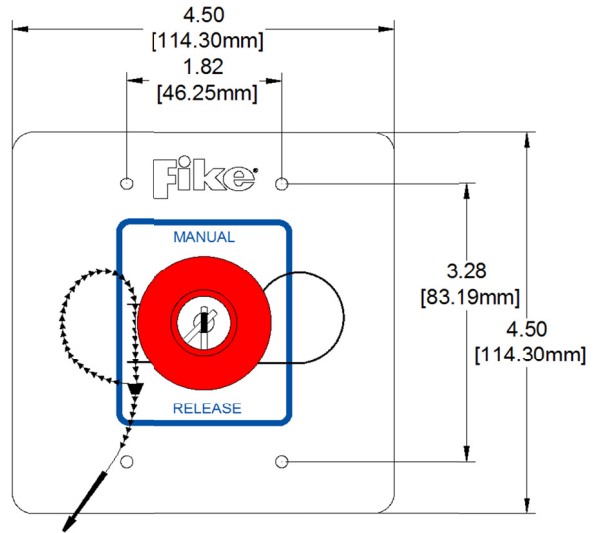

Figure 1 Switch Front View (inches/mm)
1. Remove protective plastic film from stainless steel face plate and apply the adhesive label, oriented as shown in Figure 1.